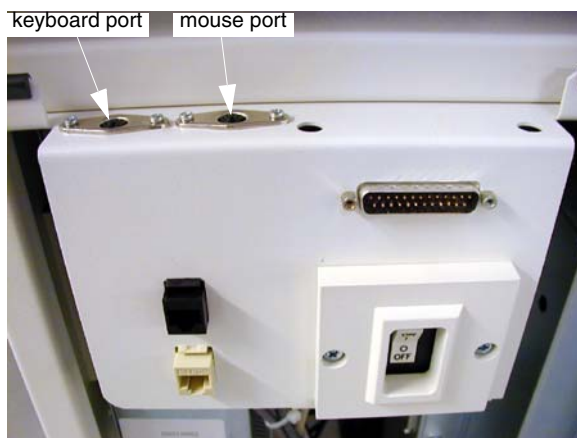

Figure 2-8 Global Console front bulkhead, showing keyboard and mouse connections
- 2.) The keyboard and mouse connect to the ports on the top of the console front bulkhead. The mouse connects to the port on the right, the keyboard connects to the left port (Figure 2-8).